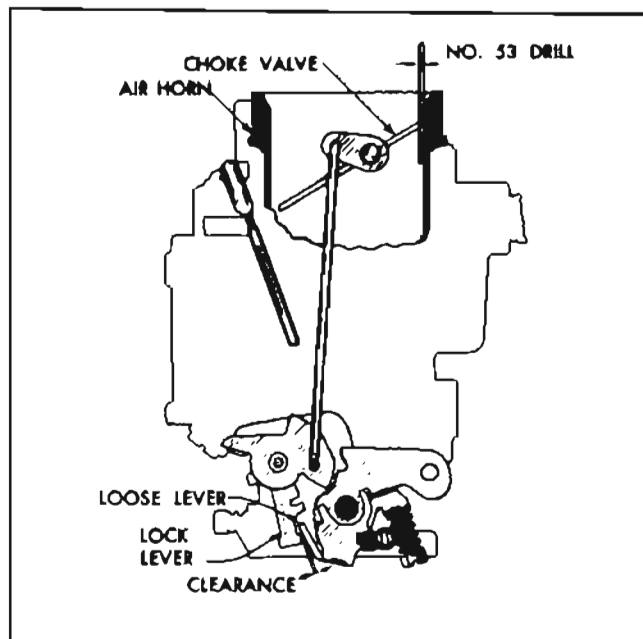

Figure 3-56—Stromberg Start Aid Lever Adjustment
5. Remove the No. 26 drill and place a No. 53 drill at the same point, then hold choke valve firmly closed against the drill. See figure 3-56.
6. Slowly open and close throttle valve several times and check clearance between the start aid loose lever on throttle stem and the lock lever behind the fast idle cam as indicated in figure 3-56.